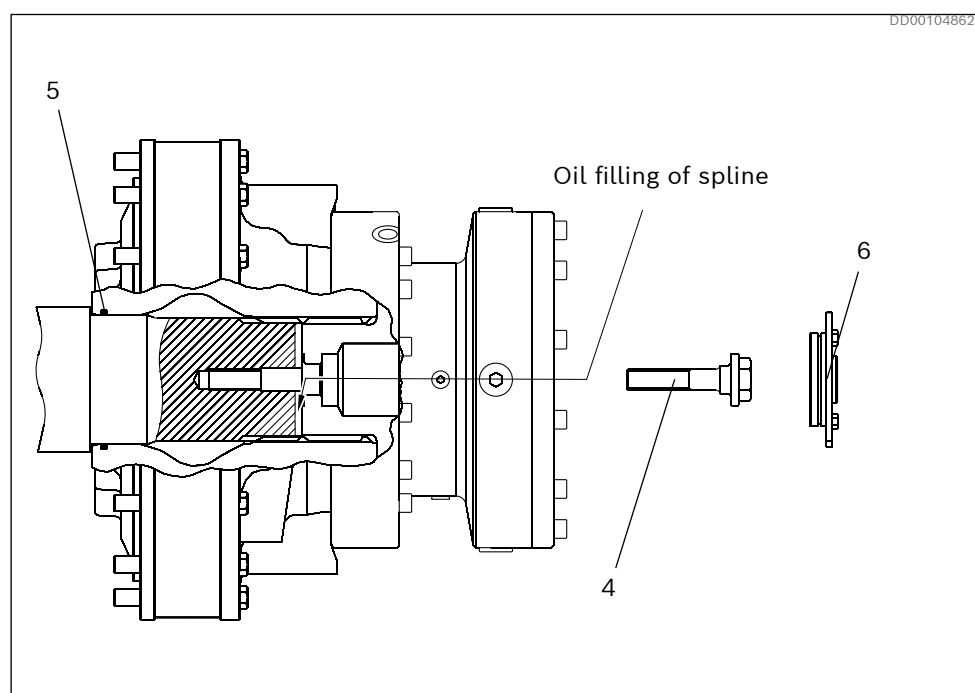

Fig. 44: Mounting of motor with BICA brake
Motors with BICA brake, must have the centre cover (6) disassembled according to *Fig. 44* and Installation and Maintenance Manual for BICA
2. Lubricate the o-ring (5) and make sure it is undamaged. The O-ring is delivered with the motor.
10. Fix the motor to the driven shaft with the mounting kit (4) which consists of a M20 screw and an O-ring. Torque 385 Nm (284 lb-ft).